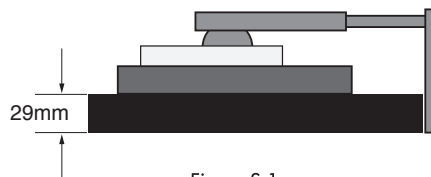

Figure S.1
3. Place monitor face down on a nonabrasive surface. (Place the screen on a 29 mm platform so that the stand is parallel with the surface.) (**Figure S.1**)